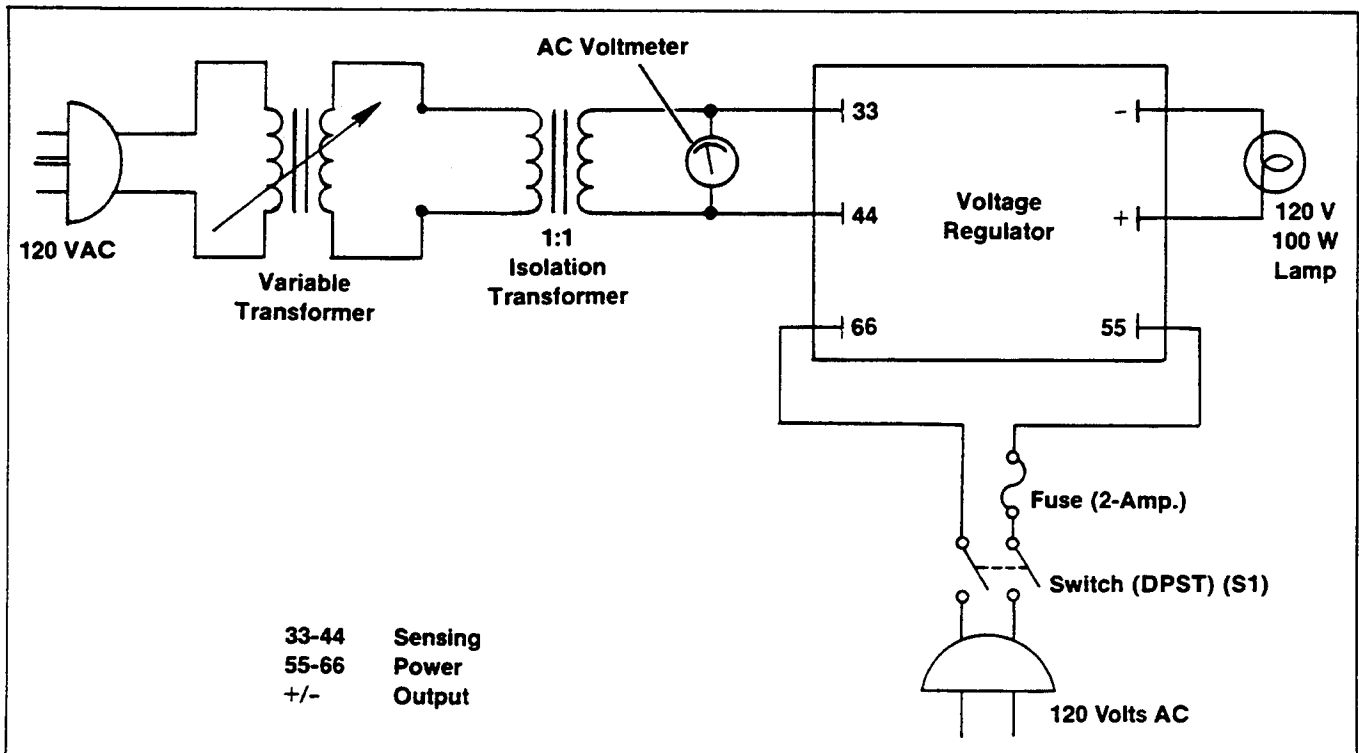

Figure 4-4. Voltage Regulator Test (6-Pin)
1. Connect components as shown in Figure 4-4.